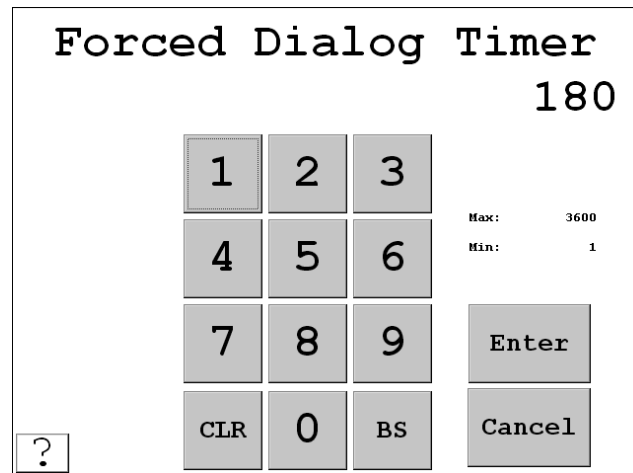

Figure 3-28. Forced Dialog Timer Screen
1. On the Forced Dialog Settings screen, press *Forced Dialog Timer*. The Forced Dialog Timer screen displays (Figure 3-28) with the current timer setting (default is 180 seconds) displayed above the *CLR* key, the final digit shown in flashing reverse video.